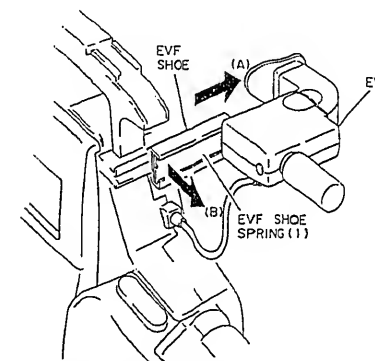
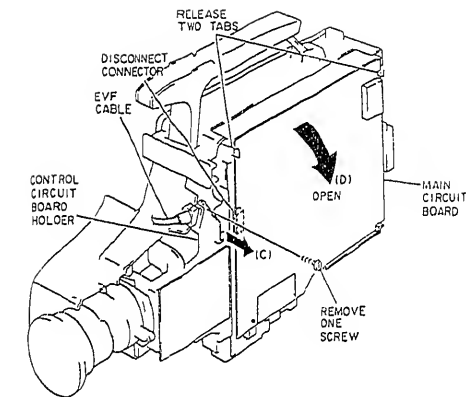

Fig. 2-2
Fig. 2-3
1. Move the EVF in the direction of arrow (A). (See Fig. 2-2)
2. While pulling the EVF shoe spring (1) in the direction of arrow (B), remove the EVF in the direction of arrow (A).
3. Remove one (1) screw and move the camera chassis in the direction of arrow (C) to release the EVF cable. (See Fig. 2-3)
4. Release two (2) tabs and open the main circuit board in the direction of arrow (D).
1. Open the main circuit board. (See Fig. 2-3)